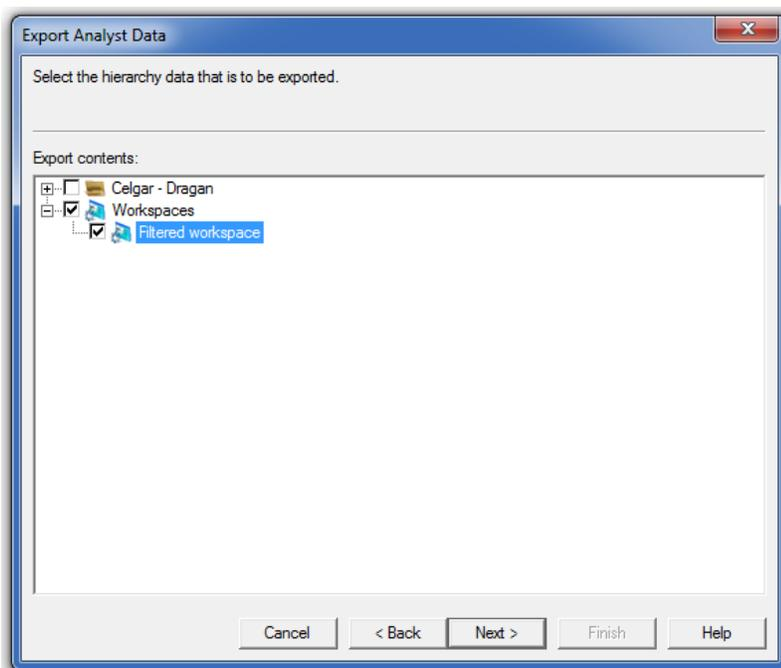

Figure 7. Select newly created workspace
7. Expand **Workspaces** and place a check next to the newly created workspace, then click **Next >**. [Figure 7]